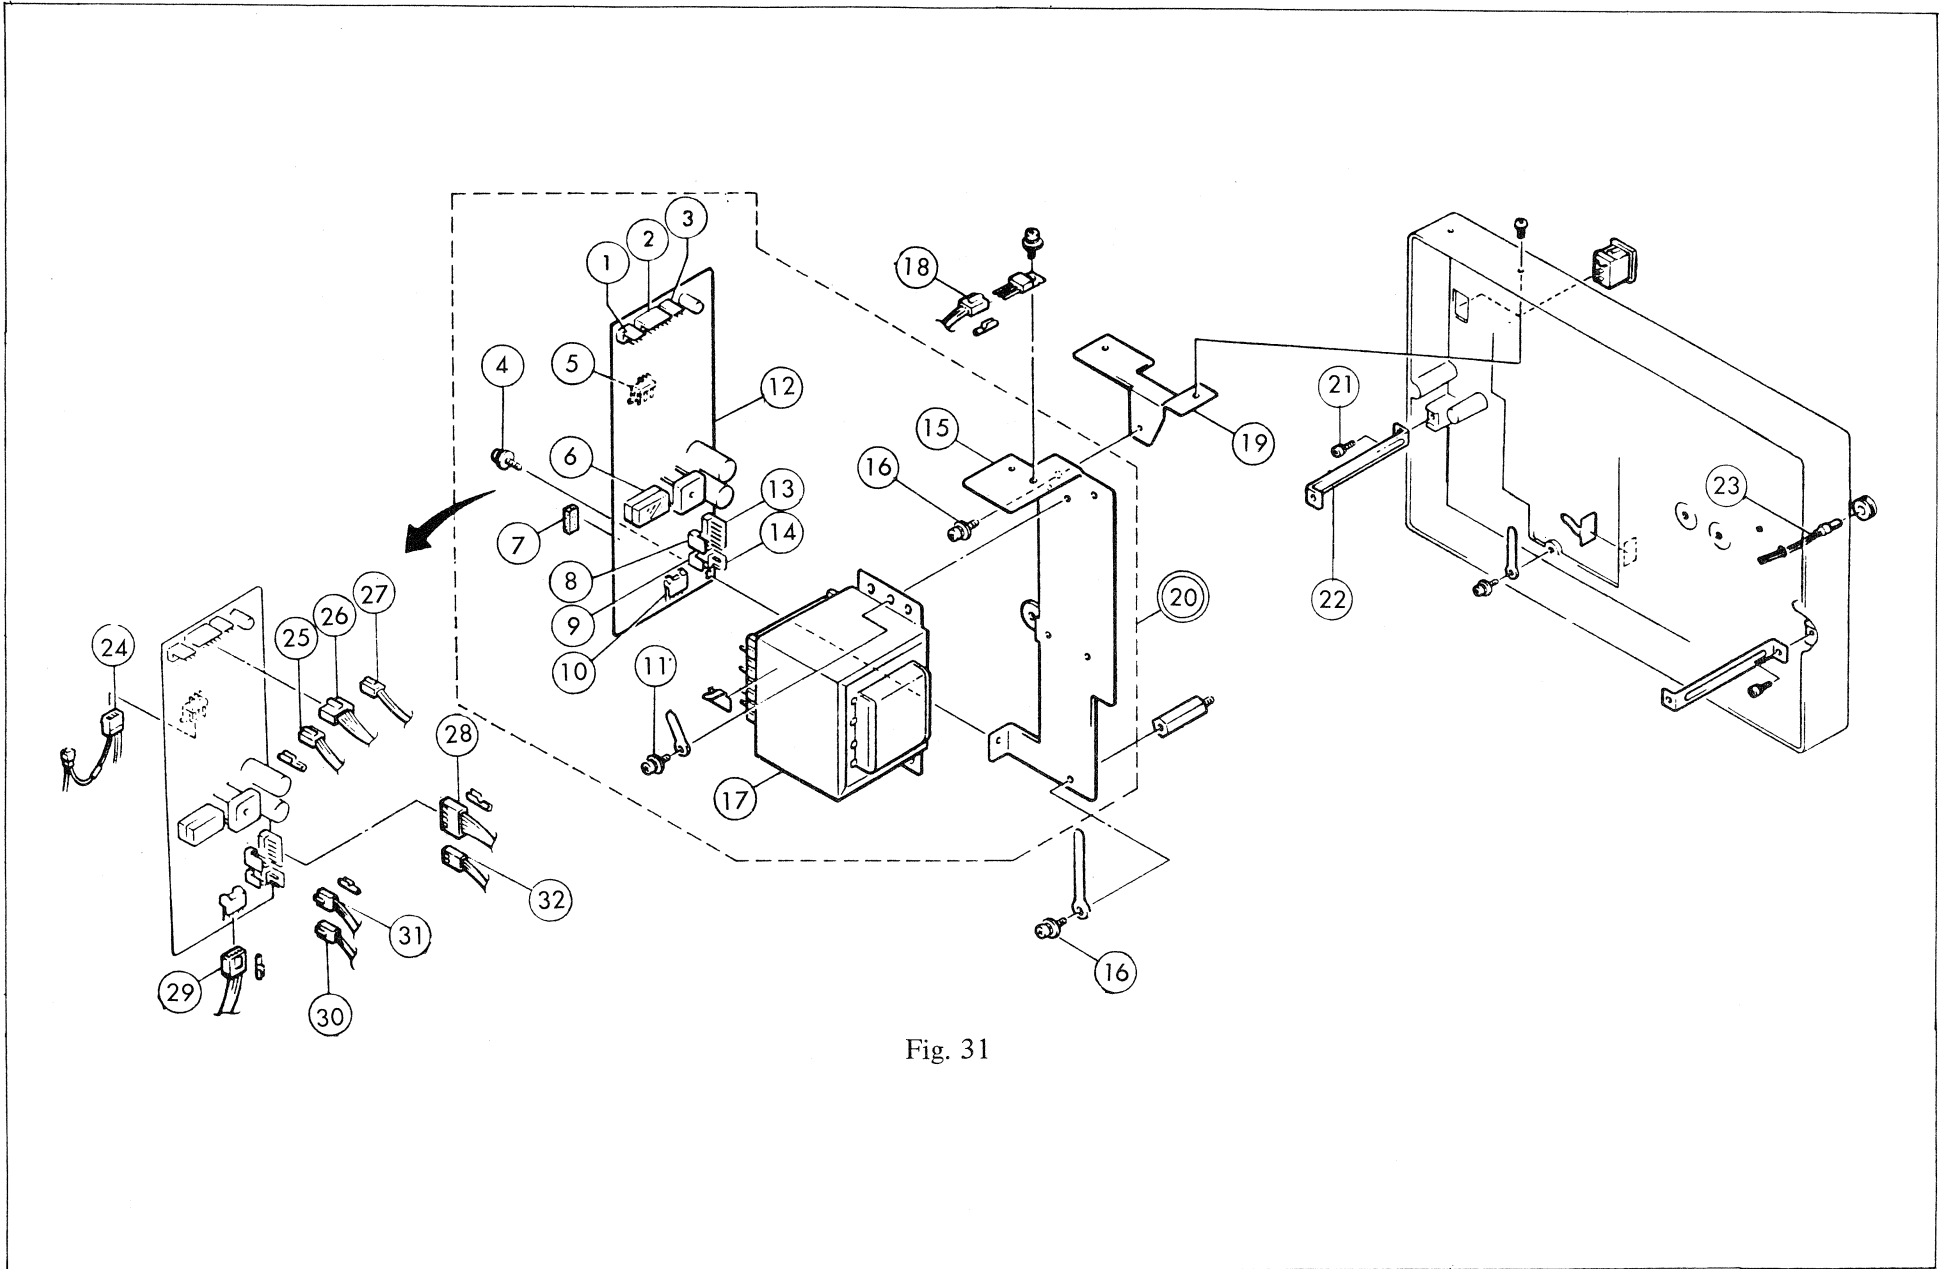

Fig. 31
### III – 2 – 16 Transformer Circuit Assy (See Fig. 31)
1. Unscrew 1 piece of ②① to remove ②②.
2. Pull out the connector assies ②④ ~ ③②. ( ②⑥ and ②⑦ – S8 only)
3. Unscrew 4 pieces of ①⑥ to remove ②⑩.
4. Unscrew 4 pieces of ①① and 1 piece of ④ to remove ①⑤.
5. See Fig. 31 for further disassembly.